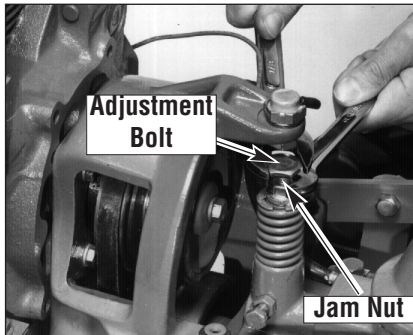

Figure 5-28: Loosen jam nut before turning reverse adjustment bolt.
4. Place a 7/8" wrench on the head of the reverse adjustment bolt and a 9/16" wrench on the jam nut below it (Figure 5-28). Hold the bolt steady while loosening the jam nut three or four turns.
6. Check that reverse disc is at least 3/16" away from transmission drive pulley. Then hold reverse adjustment bolt steady with one wrench while tightening jam nut with a second wrench (Figure 5-28).